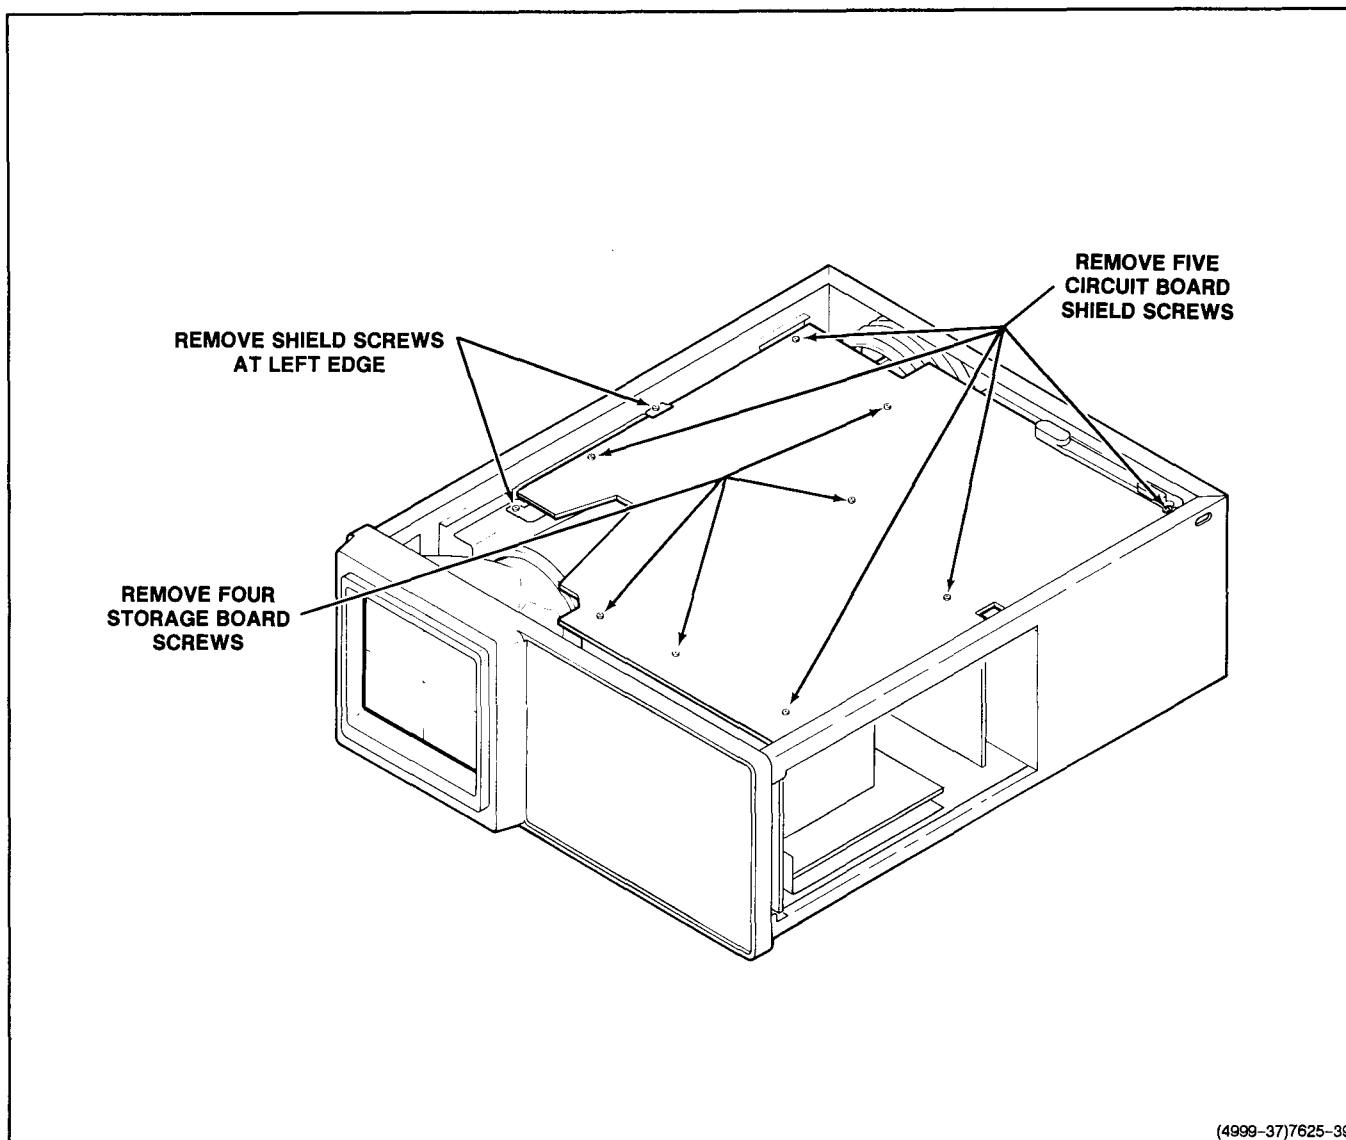

Figure 6-5. Location of screws on the Storage circuit board.
2. Remove four Storage circuit board screws that secure the circuit board to the chassis. (see Figure 6-5 for the location of the screws).
7. To separate the Storage circuit board from the shield, first disconnect P9111 (battery power cable). Then, remove the five screws securing the circuit board to the shield (see Figure 6-5); lift the Storage circuit board away from the shield.